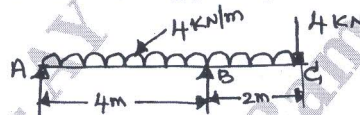

Fig.Q7(b)
- b. An overhanging beam ABC is loaded with material 4 kN/m, if it has span of 6m as shown in Fig.Q7(b). Find the reactions at A and B using principles of virtual work.